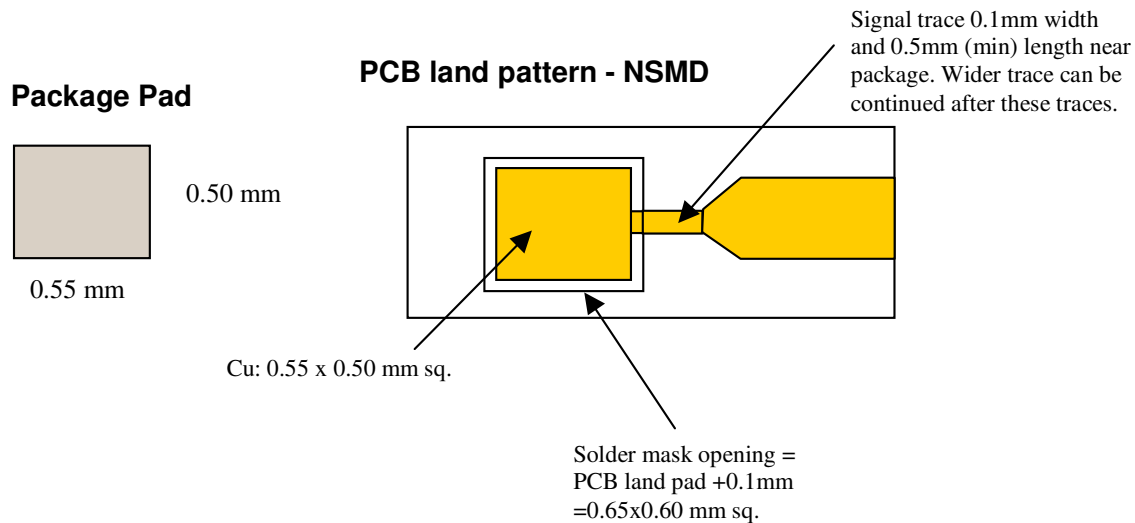

Figure 8. NSMD Solder Mask Design Guidelines
1. NSMD (Non Solder Mask Defined) is shown in Figure 8.
5. Signal trace connected to pads should be as symmetric as possible. Put dummy traces if there is NC pads, in order to have same length of exposed trace for all pads. Signal traces with 0.1 mm width and min. 0.5mm length for all PCB land pad near package are recommended as shown in Figure 8 and Figure 9. Wider trace can be continued after the 0.5mm zone.